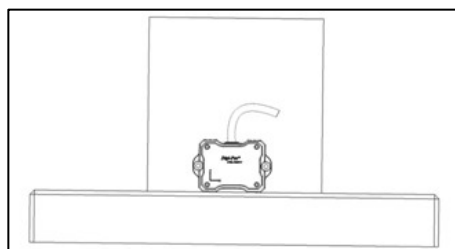

Figure 43. Tilt Sensor Module Position of Calibration Step 1
3. Locate the sensor module as following Figure 43. The sensor is ready for user to perform calibration step 1
11. For **DWL5500XY & DWL5800XY** model, please perform only 4 steps calibration as shown in Figure 43, 44, 49, and 50.